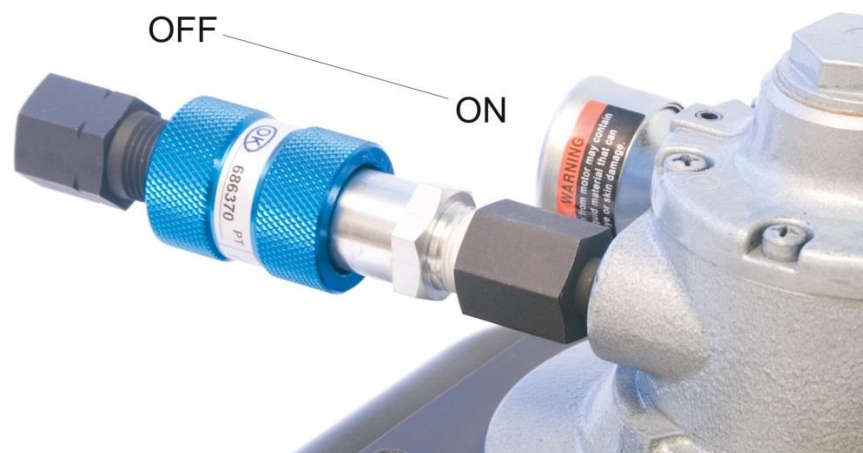

Figure 2 - DPR-222 – Slide type motor ON/OFF air supply valve
5.1.1 Ensure the ON/OFF (blue) sleeve is in the OFF position (away from the power unit – see Figure 2).